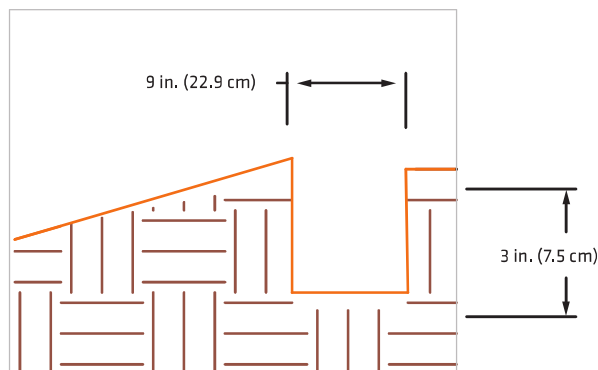

FIGURE 7
1. Begin at the location where the wattle is to be installed by excavating a 2 to 3 in. (5-7.5 cm) deep x 9 in. (22.9 cm) wide trench along the contour of the slope. Excavated soil should be placed upslope from the anchor trench (Figure 7).